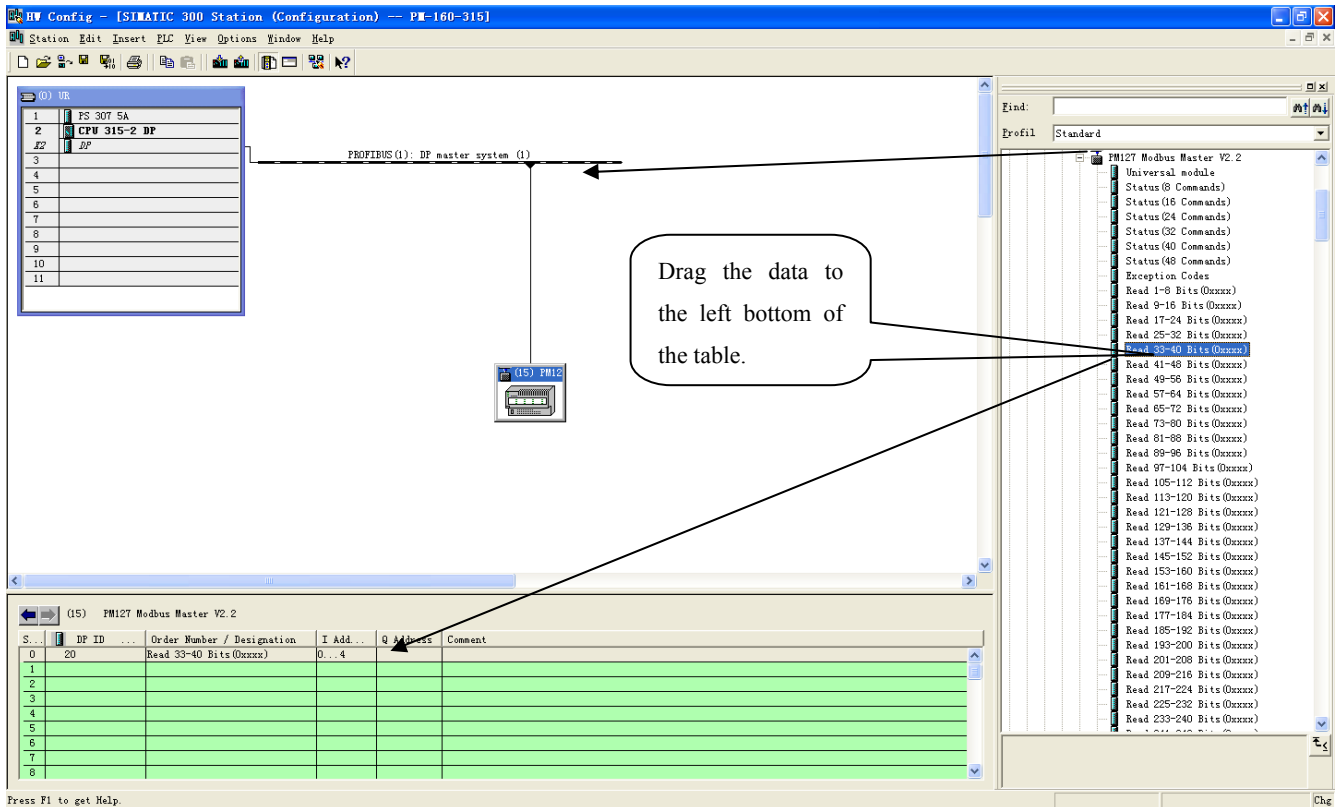

Figure 12
- Put PM-127 slave into PROFIBUS DP network, and map the input and output data block into S7-300 or other controller's memory, Figure 12: